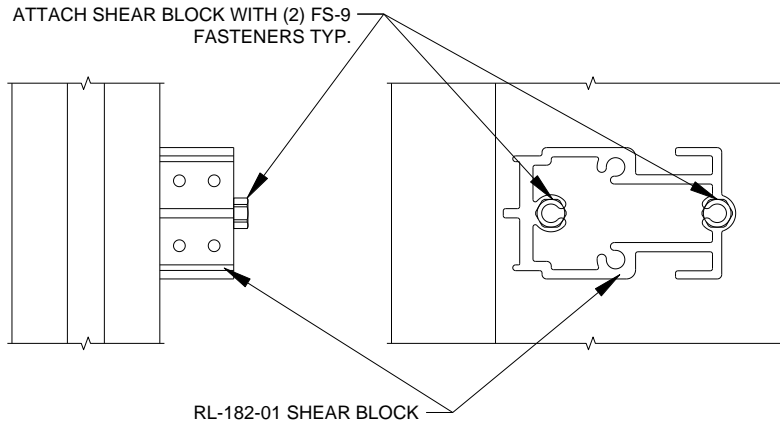

Figure 27: Standard Shear Block Attachment
- 10.1 Attach **RL-182-01** or **WW-276-01** Shear Blocks to Vertical using (2) **FS-9** Fasteners, see *Figure 27*. In the event of a stripped fastener, add 2 **FS-9**'s in the middle splines.